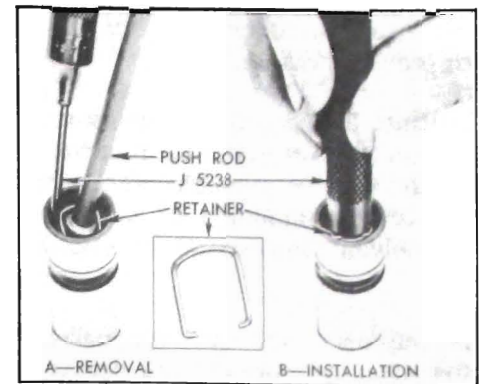

Figure 60-221--Removing and Installing Plunger Retainer
5. Disassemble each valve lifter by using a push rod to hold down the push rod seat while removing the plunger retainer from the lifter body using Retainer Remover J-5238. See Figure 60-221. Remove push rod seat and plunger from lifter body.
17. Rinse push rod seat and plunger retainer, place these parts in end of body and depress with handle of Remover J-5238 until retainer engages groove in body. See Figure 60-221, View B.